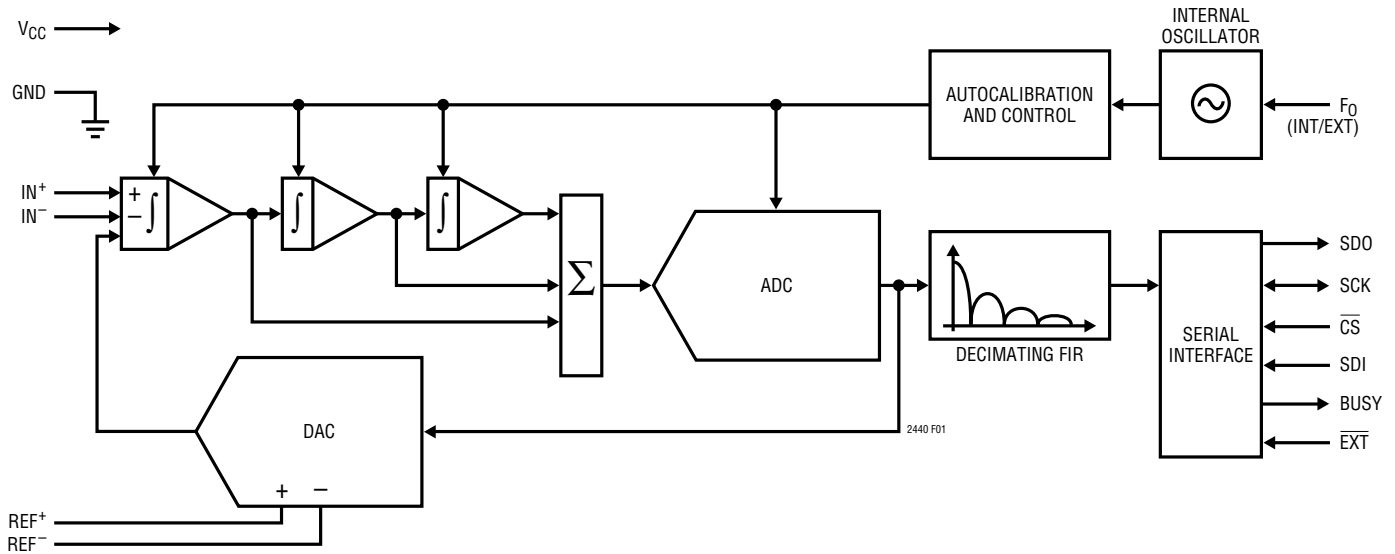
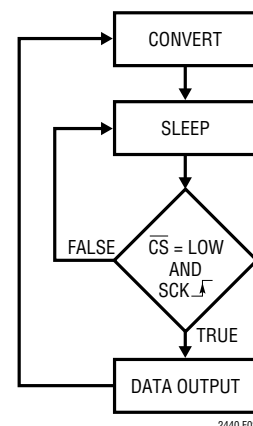

Figure 1. Functional Block Diagram
Figure 2. LTC2440 State Transition Diagram
The LTC2440 is a high speed, delta-sigma analog-to-digital converter with an easy to use 3-wire serial interface (see Figure 1). Its operation is made up of three states. The converter operating cycle begins with the conversion, followed by the low power sleep state and ends with the data output (see Figure 2). The 3-wire interface consists of serial data output (SDO), serial clock (SCK) and chip select (CS). The interface, timing, operation cycle and data out format is compatible with the LTC2410.